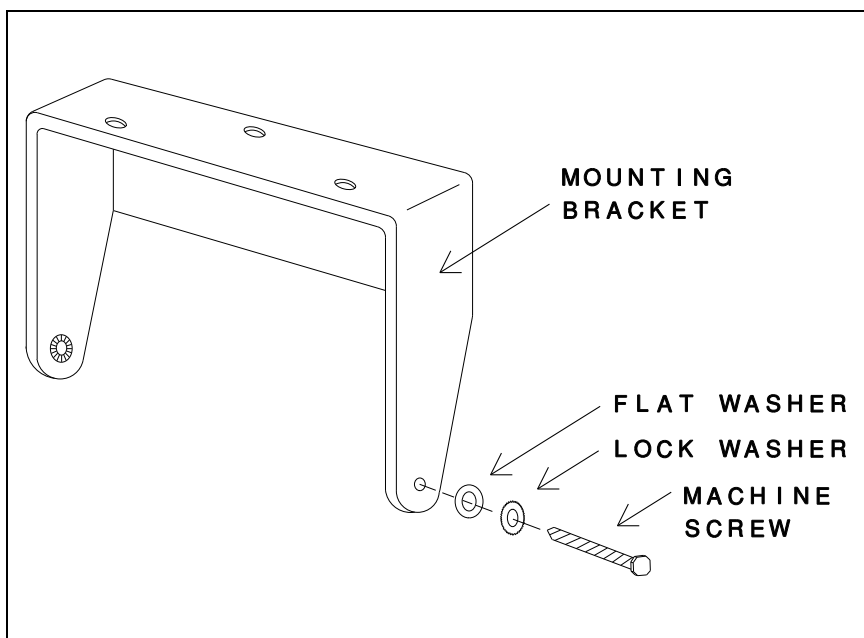

Figure 11 - Mounting The External Speaker
1. Mount the speaker so it is directed to the operator but does not cause interference with his vision. It also should not present a hazard in the event of an accident. The speaker may be mounted on the lower edge of the instrument panel, the fire wall, or above the windshield in some trucks. Use the mounting bracket as a template for locating the mounting holes, and mount the speaker as shown in Figure 11.